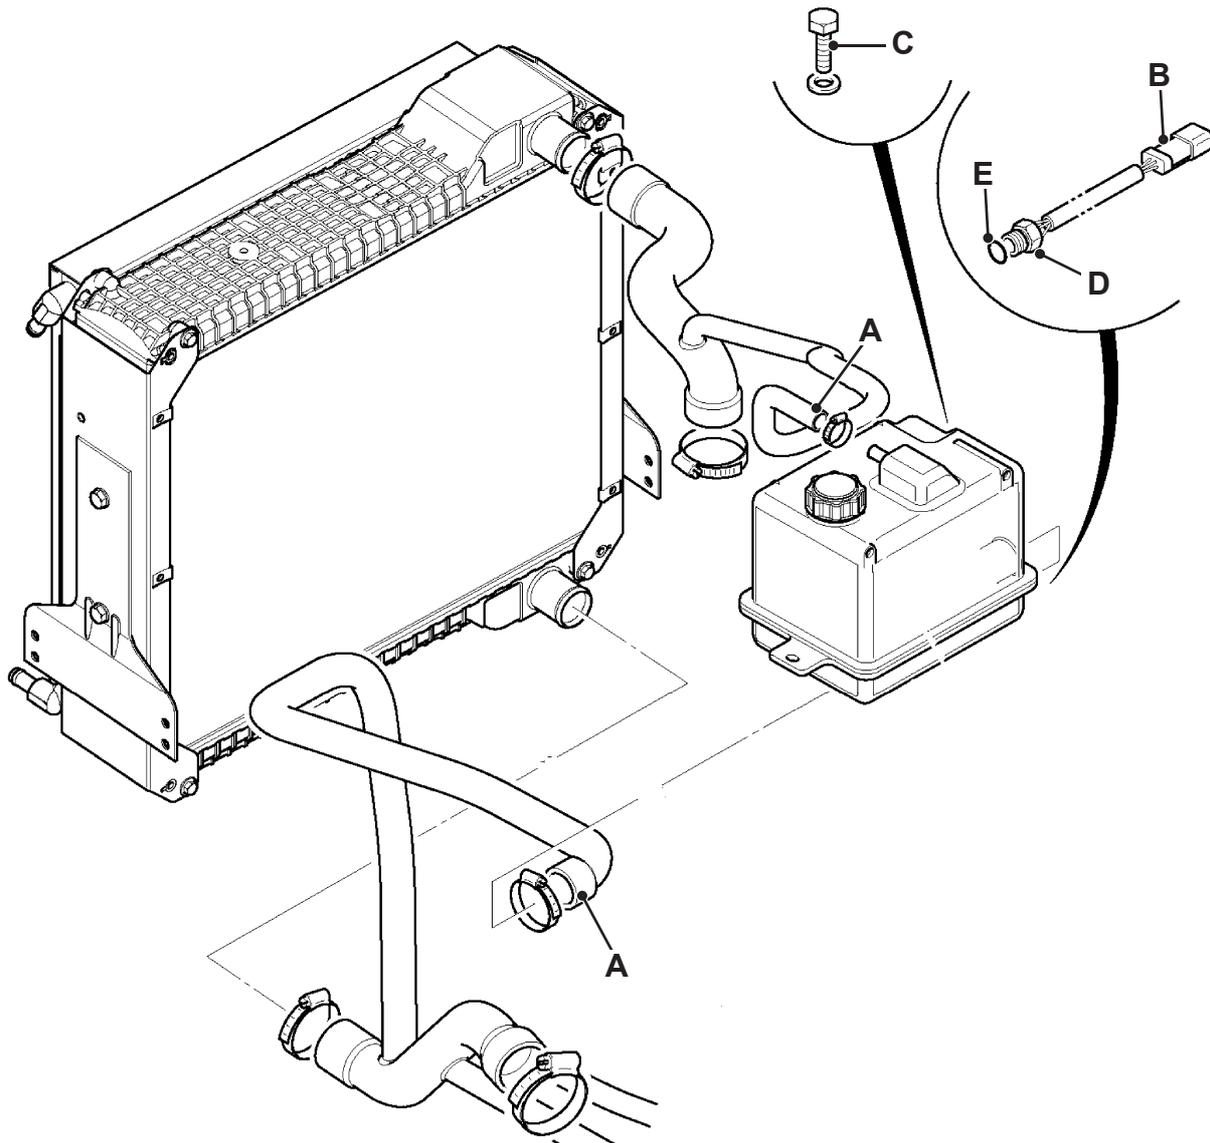

Fig 11.
- 4 → Fig 11. (K-18). Loosen the clips and pull off the two hoses **A**. Tie the hoses out of the way.
- 2 → Fig 11. (□ K-18). Carefully unscrew the low coolant level sensor **D** from the tank.